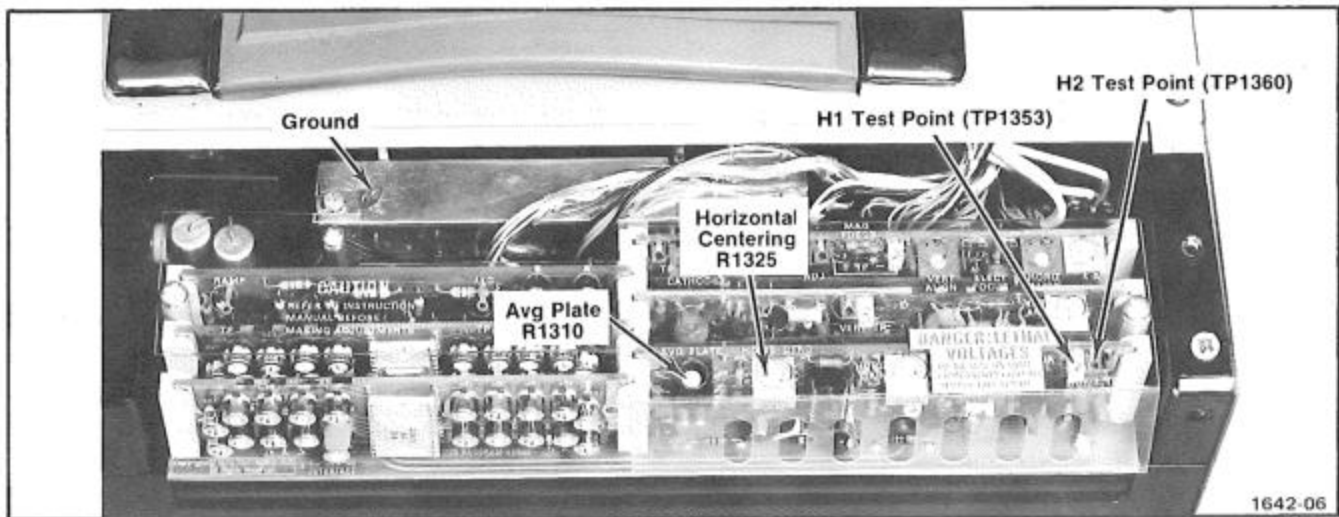

Fig. 5-1. Location of the J20 Horizontal Amplifier test points and adjustments.
- a. Connect the negative meter lead from the DVM to ground and the positive meter lead to H1 test point TP1352 on the Horizontal Amplifier circuit board. See Fig. 5-1.
- c. Remove the positive meter lead from H1 test point TP1352 and attach it to H2 test point TP1360. See Fig. 5-1. Note the meter reading at H2 test point TP1360.
- g. ADJUST—Avg. Plate R1310 (see Fig. 5-1) for a meter reading of $+250\text{ V}, \pm 1\text{ V}$.